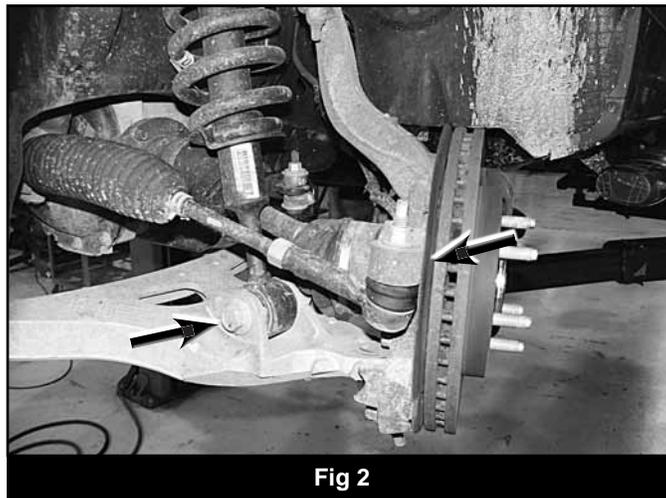

Fig 2
5. Remove the steering tie rod end nut from the tie rod end at the knuckle (Fig 2). Thread the nut back on a couple of turns. Strike the knuckle with a hammer near the tie rod end to dislodge it from the knuckle. Remove the nut and the tie rod end from the knuckle. Retain nut. Note: Take care not to damage the tie rod end.
9. Loosen the lower strut mounting bolt at the lower control arm (Fig 2). This bolt requires a 27mm wrench/socket for the bolt head and a 30mm wrench/socket for the nut. Leave the bolt/nut in place to hold the strut in place.